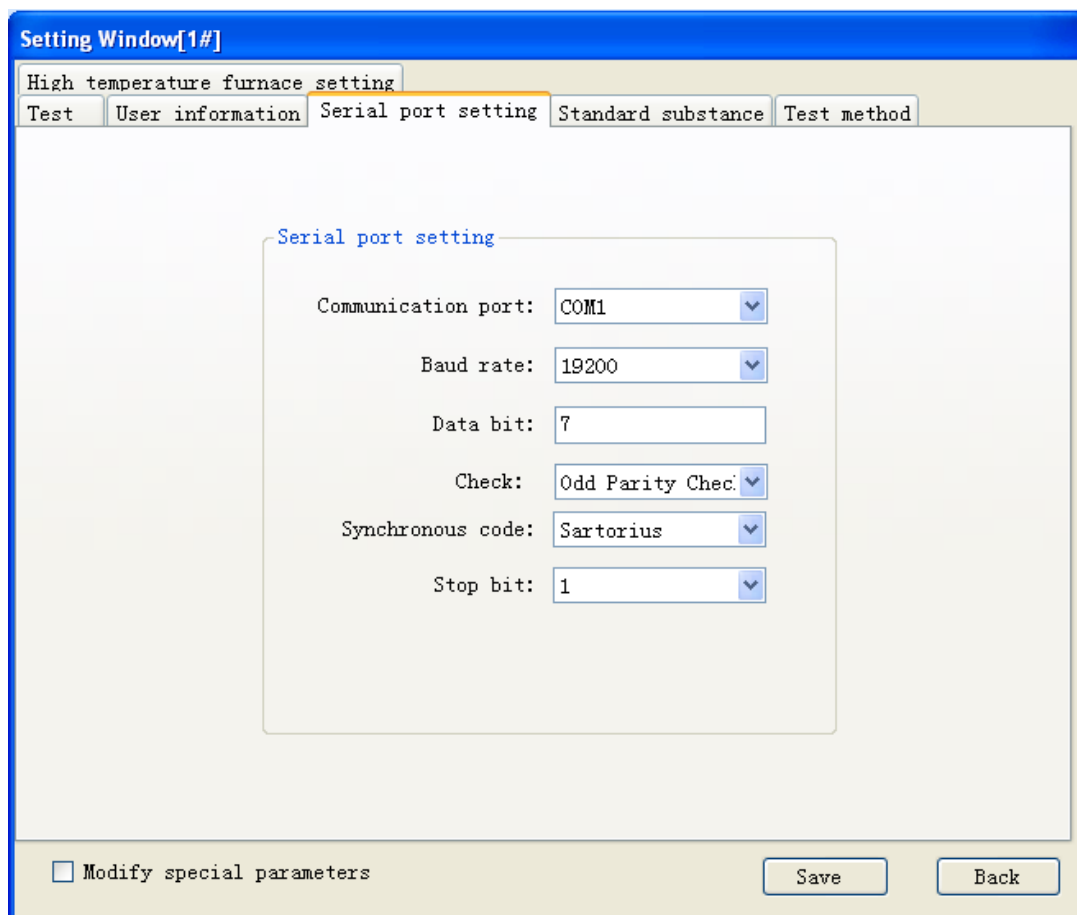

Fig. 4-3-4
**1-2. Serial port setting:** click tab “Serial Port Setting” of “Setting Window”, the window shown in Fig. 4-3-4 will popup.